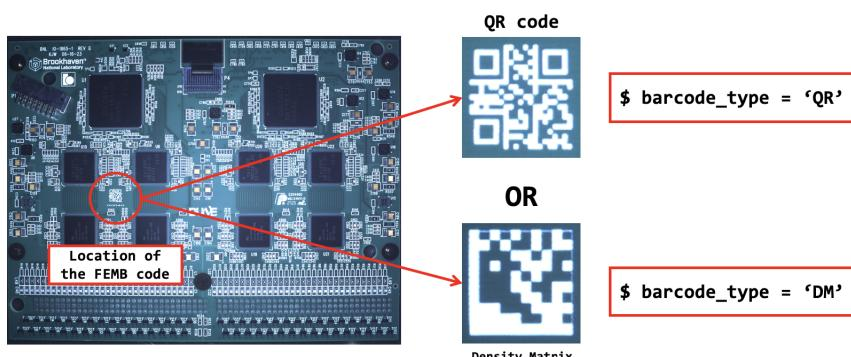

Figure 13: Inspect the FEMB to see if it has a QR code or a Density Matrix and modify the code accordingly.
- 2) Does the FEMB have a QR code or a Density Matrix? The FEMB serial number comes from reading its QR code (or Density Matrix (DM), in some cases). Make sure you identify what type of code the FEMB has (Figure 13). If necessary, modify the type of code the application reads by opening the `sn_recognition_qc_camera.py` file, and changing line 112. Don't forget to save before closing the file!